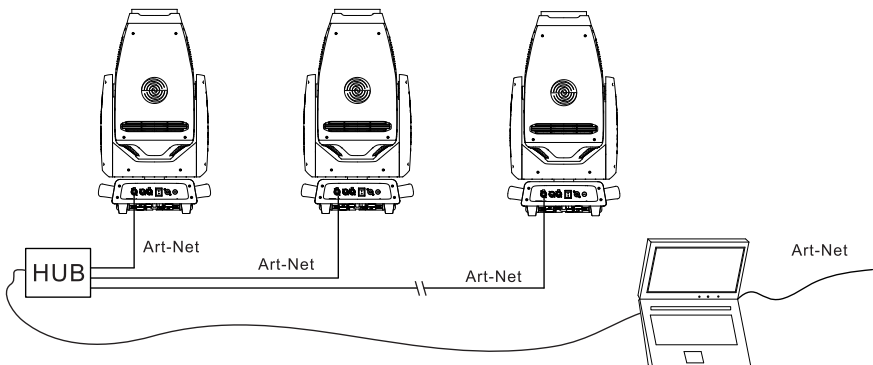

Fig.4.3-4
4. Ethernet connection layout, shown as Fig.4.3-4.